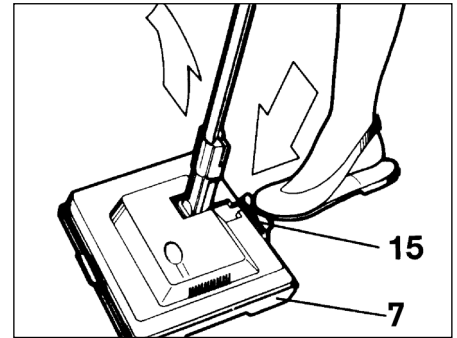

Figure 1
A. Before turning on your brush machine, remove the machine from the storage tray (7) by pressing down the catch (15) and lifting the machine upwards by the handle (figure 1).